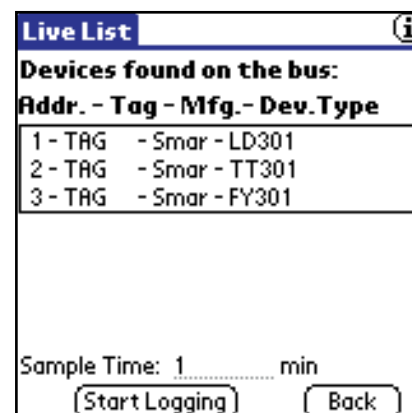

Fig. 9. - Live List Screen
1. From the Live List screen, enter the desired sample time in minutes (Figure 9) .